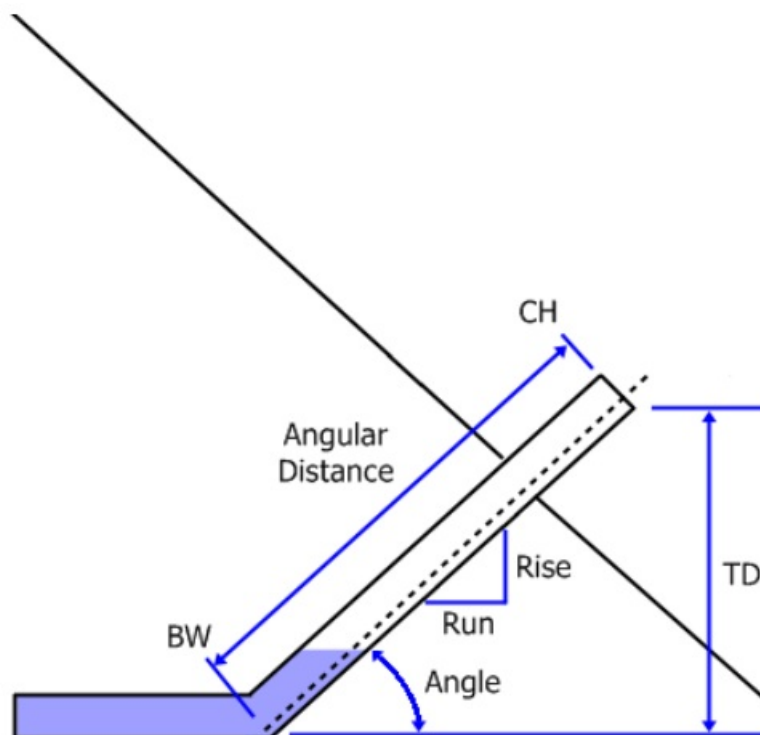

Figure 2 - Angled Casing Dimensions
To calculate the vertical value of 'Tube Depth Below Casing Height' (TD) to enter, refer to Figure 2 below and apply one of the two following formulas: